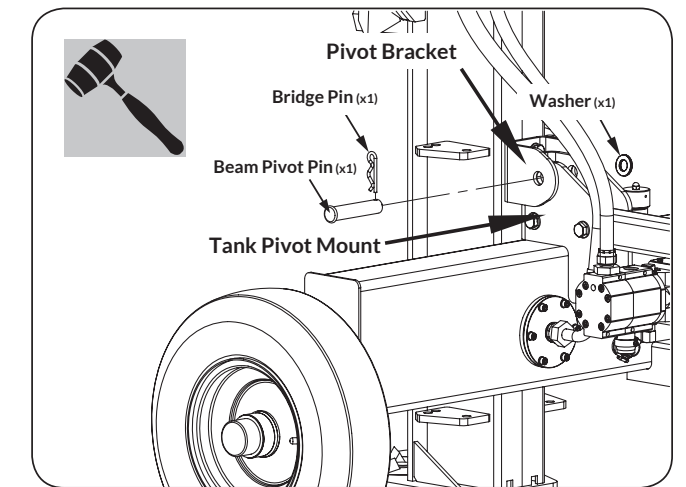

Figure 7b
- Align the pivot bracket on the beam assembly to the pivot mount on the tank weldment and insert the beam pivot pin and washer. (See Figure 7b)